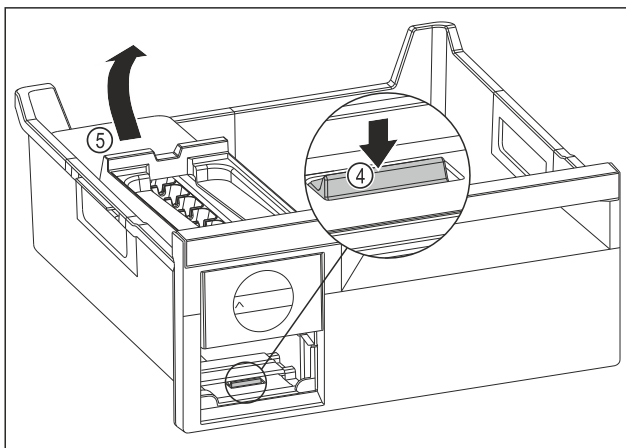

Fig. 87
- ▶ Removing the EasyTwist-Ice body: Use your finger to push the tab Fig. 87 (4) down and use your other hand to lift the EasyTwist-Ice body Fig. 87 (5) from behind at the same time.